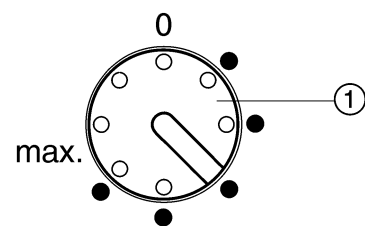

Fig. 2
- ▶ Turn the temperature control *Fig. 2 (1)* with a coin to the right.